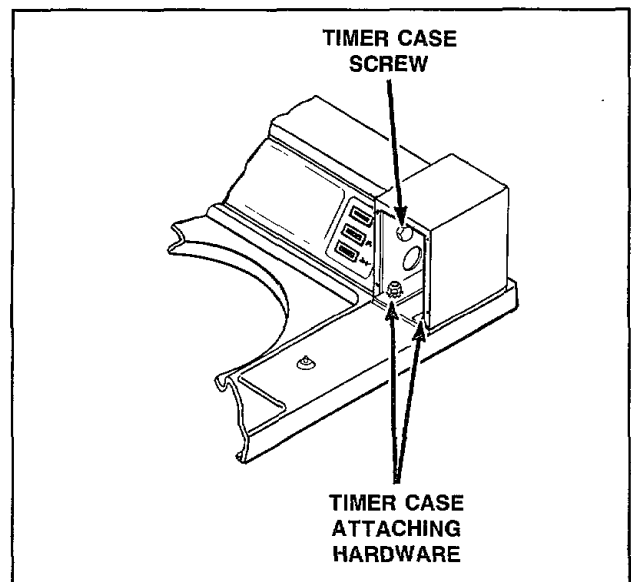

Figure 8
- c. Remove cap screw, lockwashers and nut holding timer case to control hood, *Figure 8*.